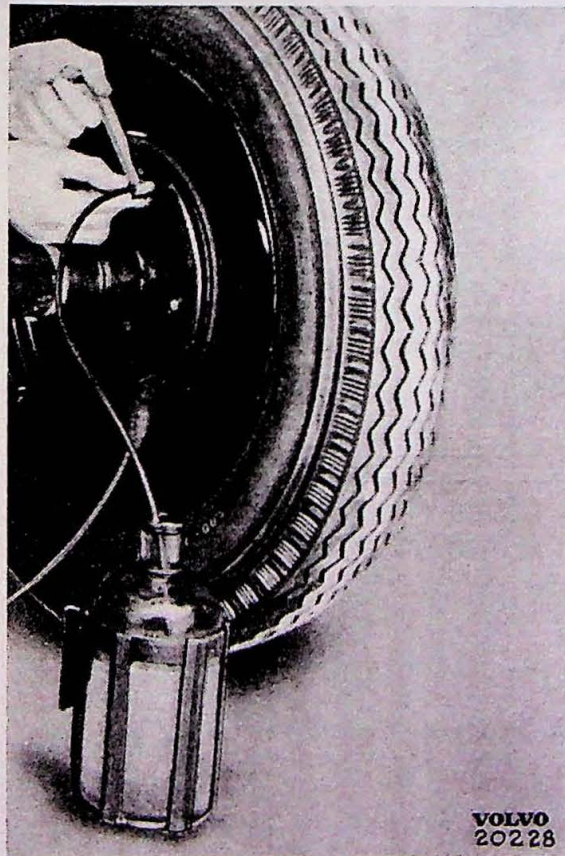

Fig. 28.
3. Fit on spanner SVO 1431 B with the air-venting hose on the nipple and let the other end of the hose hang down in the collecting jar, see Fig. 28.